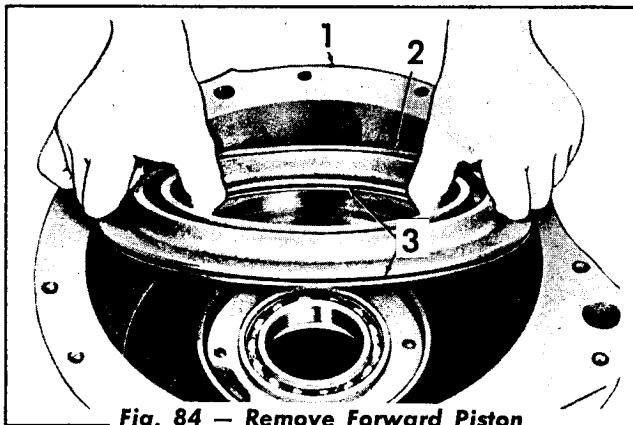

Fig. 84 — Remove Forward Piston
22. Position the transmission housing (Fig. 84) on the work table with the piston up and remove the forward piston. Remove the seal rings from the piston.